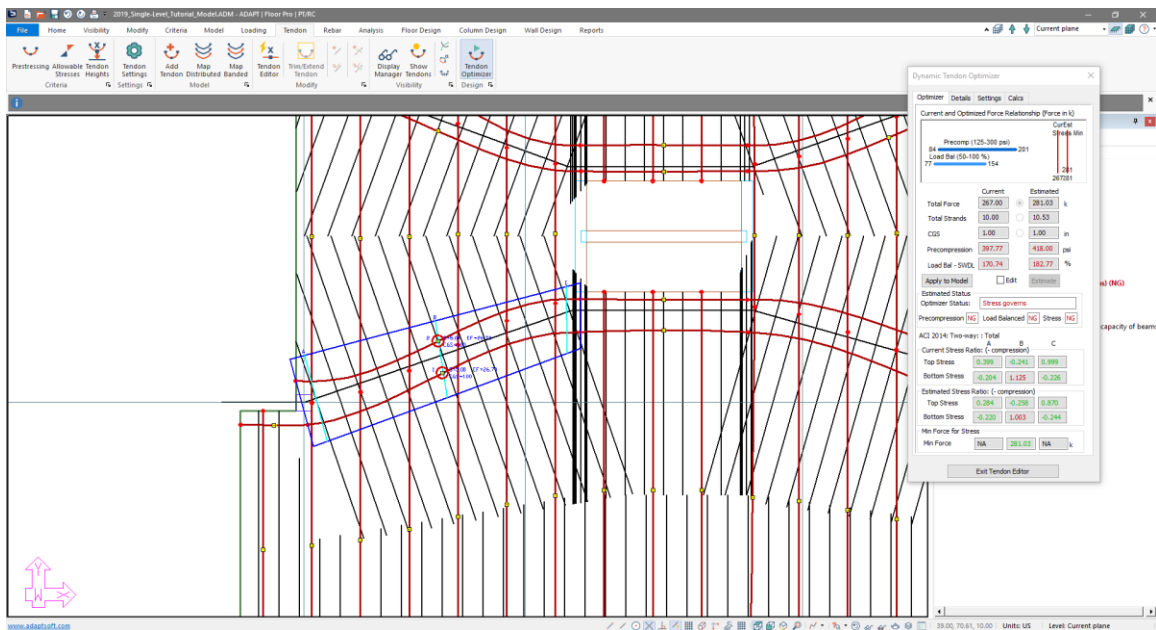

Figure 8-59
- Drag and select the two low points of this span for the banded tendons. The program will then create a tributary region (dark blue outline) and three design cuts (cyan color) to evaluate for the tendon optimization as shown in **FIGURE 8-59**. In addition, you can see the properties of the design section cuts in the *Dynamic Tendon Optimizer* window.
- The first thing we need to do when optimizing banded tendons is make sure that the optimizer design strips and design sections resemble as close as possible the design cuts from the support lines. As shown in **FIGURE 8-59** you can see that the strip is not as wide as our support line design section cuts.